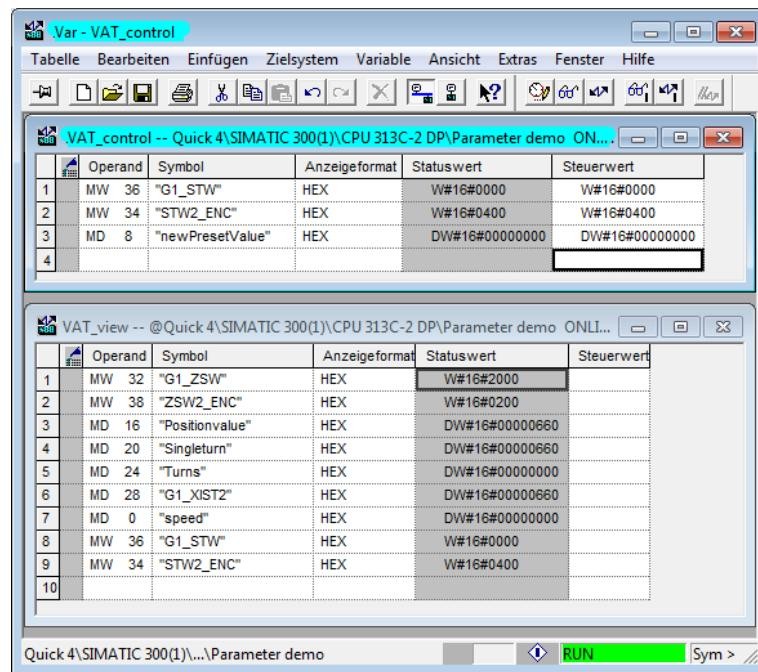

Figure 7.1: Variables table "VAT_Control" – "STW2_ENC" = 400
- Open the variables table "VAT_Control" (see Figure 7.1).
- Set the control value of "STW2_ENC" to the hex value 0400 ("STW2_ENC" – bit 10). This puts the encoder in the "Control by PLC" mode (see Figure 7.1; for details see PROFIBUS manual, class 4, control priority).